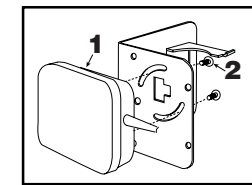

Fig. 10
1. Transmitter (Item 1 Fig. 10) attaches to battery support bracket using 2-#10 x 0.5 inch (M5x0.8 x 12.7) taptite screws (Item 2 Fig. 10).